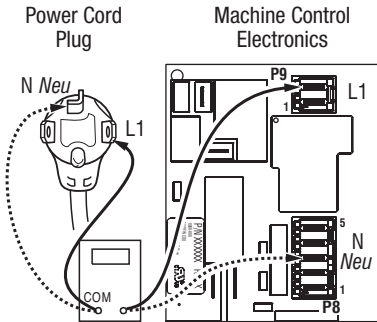

Figure 3b. Plug-to-terminal connections for electric dryer.
4. With an ohmmeter, check the continuity from L1 and N plug terminals of the power cord to the terminals for L1 and N on the machine control electronics. See figure 3b.